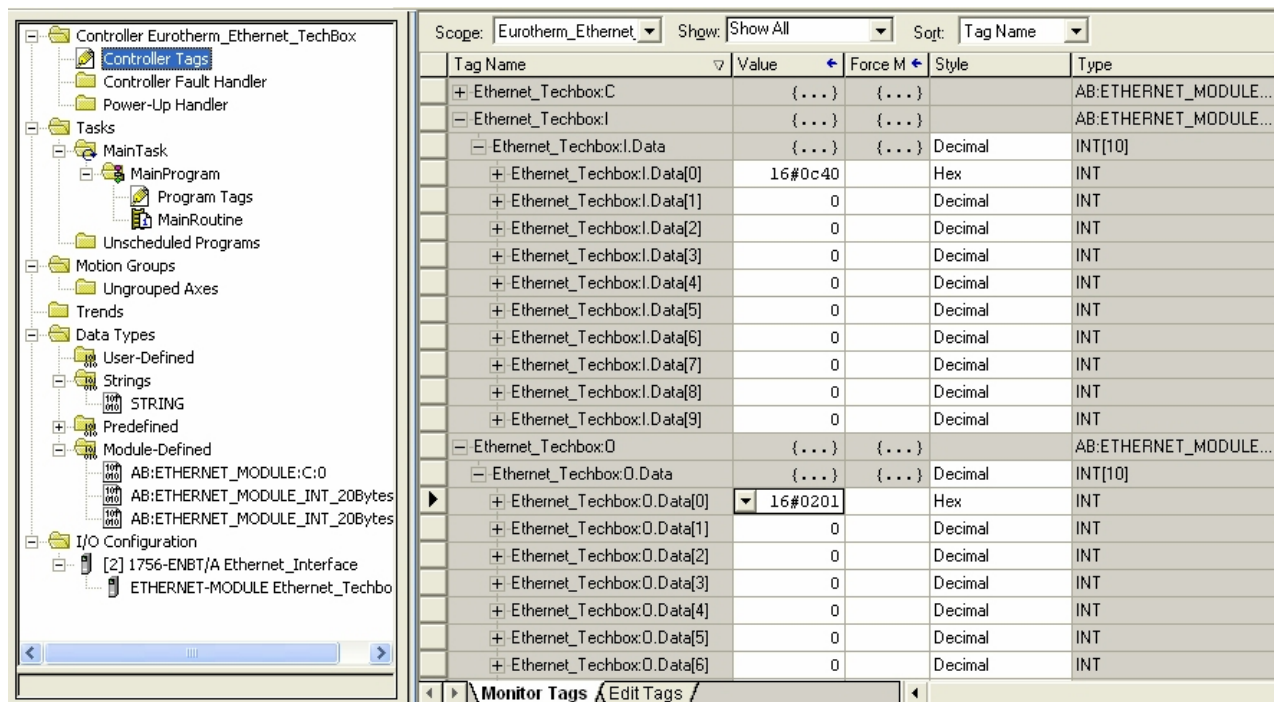

Figure 13. Controller Tags
- When completed with the setup of the Generic Ethernet Module it can be downloaded to the PLC. For testing purposes it is not necessary to program Ladder Logic in the PLC. The data can be accessed and monitored via Controller Tags. Refer to Figure 13.